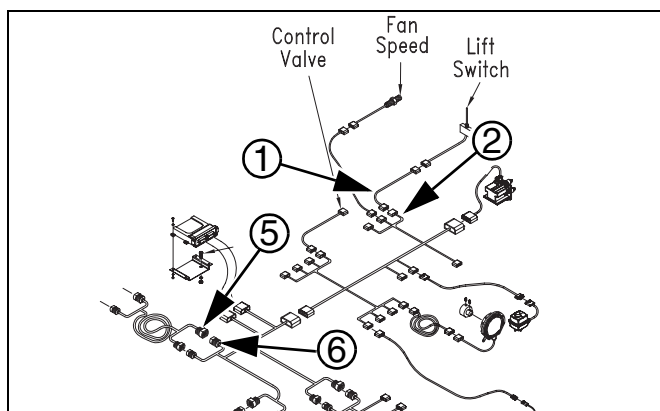

Figure 3
Refer to Figure 3 & 4 for step 3
- Locate the lift switch on the rear of the implement. Follow the lift switch's green harness to the adjoining extension harness ①. Determine the extension harness wire color that connects to the lift switch. Follow these wires up to the next coupling.
- Uncouple the lift switch extension harness (466820714) ① wires from the actuator harness (467980160) ② where shown in Figure 3. Do not disconnect other wires from the actuator harness. Connect the lift switch extension harness to the weather pack terminal ③. Do not connect weather pack shroud ④.
- Uncouple WSMB harness (467980851) ⑤ and 25' extension harness (467980143) ⑥. Connect WSMB harness to 4F plug ⑦. Connect 25' extension harness to 4M plug ⑧.
- Route harness extension ⑨ along existing hydraulic hoses to the weight transfer control valve. Connect weight transfer harness's weather pack dual pin ⑨ to weight transfer control valve.